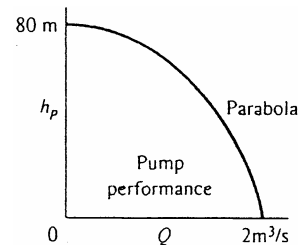

Fig. P6.80
6.80 The head-versus-flow-rate characteristics of a centrifugal pump are shown in Fig. P6.80. If this pump drives water at 20°C through 120 m of 30-cm-diameter cast-iron pipe, what will be the resulting flow rate, in m^3/s ?
6.81 The pump in Fig. P6.80 is used to deliver gasoline at 20°C through 350 m of 30-cm-diameter galvanized iron pipe. Estimate the resulting flow rate, in m³/s. (Note that the pump head is now in meters of gasoline.)
6.82 The pump in Fig. P6.80 has its maximum efficiency at a head of 45 m. If it is used to pump ethanol at 20°C through 200 m of commercial-steel pipe, what is the proper pipe diameter for maximum pump efficiency?